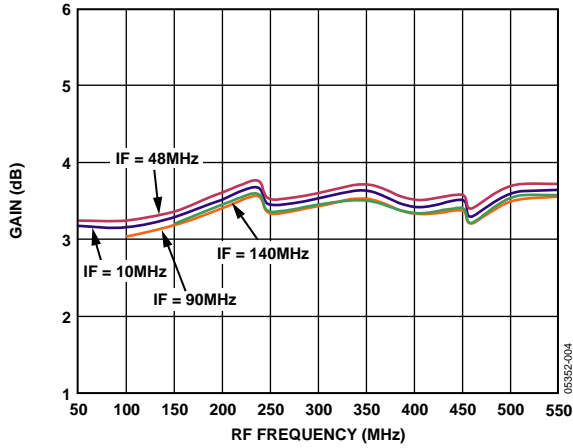

Figure 3. Conversion Gain vs. RF Frequency
The AD8342 is designed to downconvert radio frequencies (RF) to lower intermediate frequencies (IF) using a high or low-side local oscillator (LO). The LO is injected into the mixer core at a frequency higher or lower than the desired input RF. The difference between the LO and the RF,  $f_{LO} - f_{RF}$ , (high side) or  $f_{RF} - f_{LO}$  (low side) is the intermediate frequency,  $f_{IF}$ . In addition to the desired RF signal, an RF image is downconverted to the desired IF frequency. The image frequency is at  $f_{LO} + f_{IF}$  when driven with a high side LO. When using a broadband load, the conversion gain of the AD8342 is nearly constant over the specified RF input band (see Figure 3).